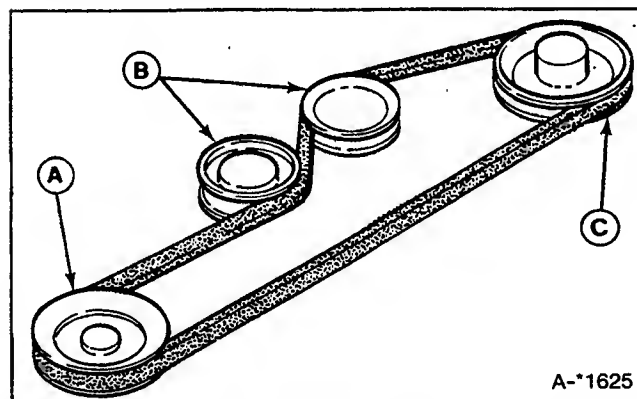

Figure 24. Tractor Belt Pattern
10. Install new belt over clutch lever arm in front. In rear, belt must be placed over transmission coolant lines, transaxle brake, and ground speed control linkage. Refer to figure 24 for belt pattern.
11. Reinstall speed control ball joints (E) at both ends.
12. Walk belt over transaxle fan and install on pulley (D).
14. Position belt between idler pulleys (B) and reinstall belt guide (A).